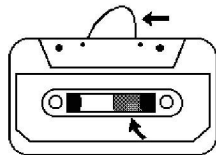

Fig.1
- Check that there are no loose layers of tape visible through the cassette center window (see Fig. 1). Take up any loose layers, using a pencil or hexagonal barrelled ballpoint pen, before inserting the cassette into the machine (see Fig.2)